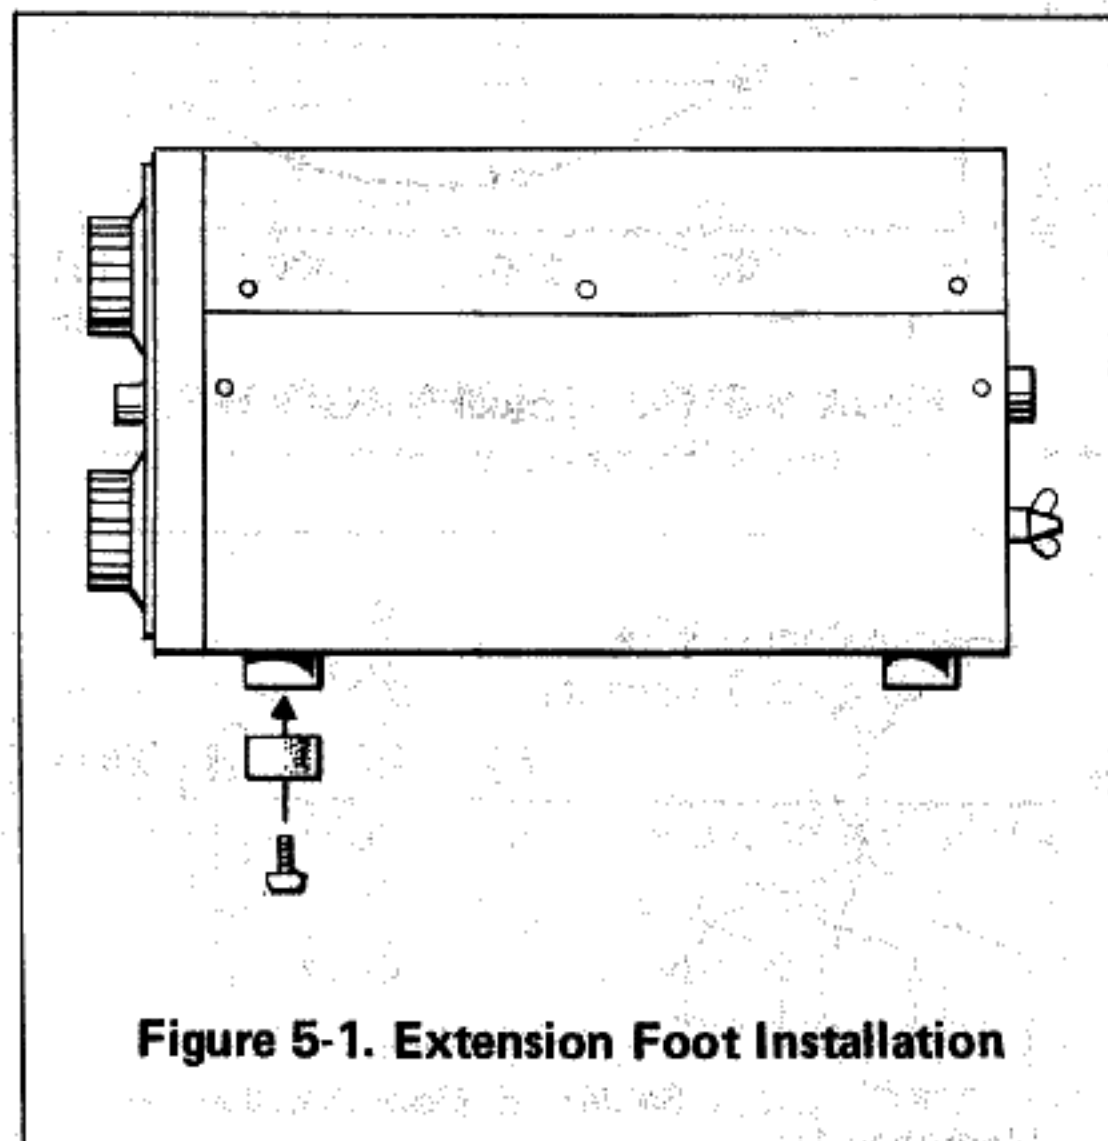

Figure 5-1. Extension Foot Installation
2. To install the extension feet (Figure 5-1)